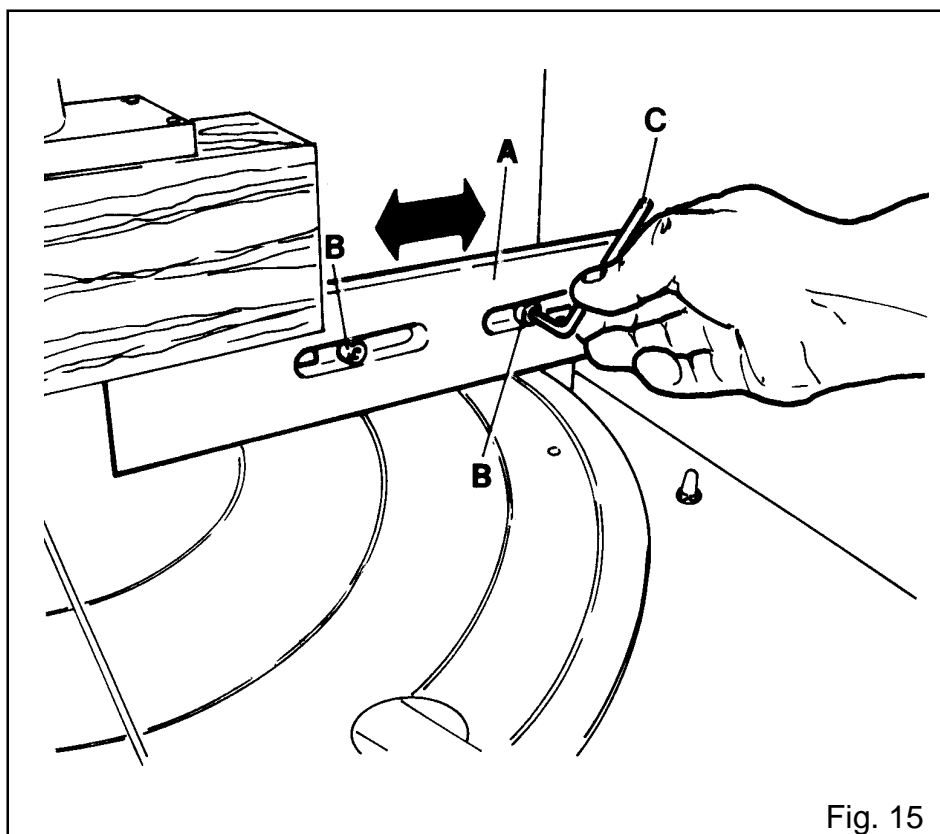

Fig. 15
- Insert spanner C (Fig. 15) in to the special screw B (Fig. 15) blocking the fence A (Fig. 15) by loosening them.
- Block screw B (Fig.15) by means of the special spanner C (Fig. 15).